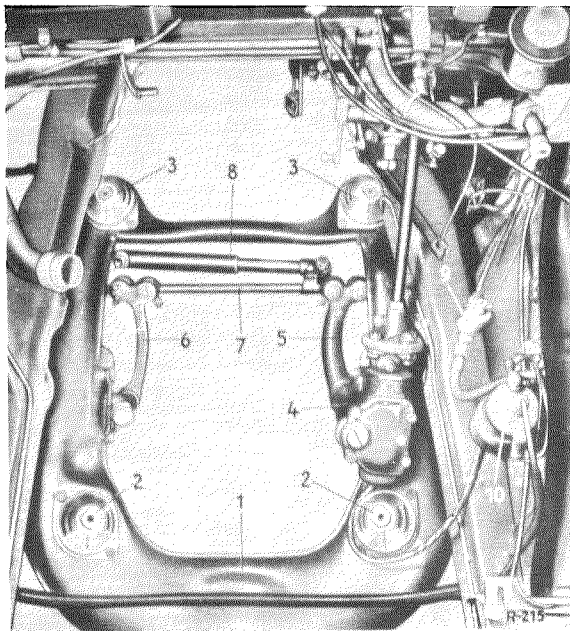

Fig. 46—10/1
1. Unscrew the hexagon nut from the support bolt welded to the front axle support (Fig. 46—10/1).